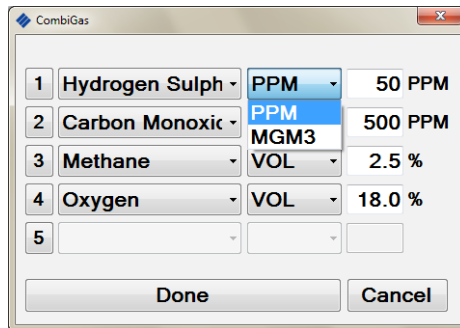

Fig. 3-15 Edit Gas Measurement
2. Similarly, the unit of measure can also be edited by selecting the adjacent drop down arrow, as illustrated in Fig. 3-15.